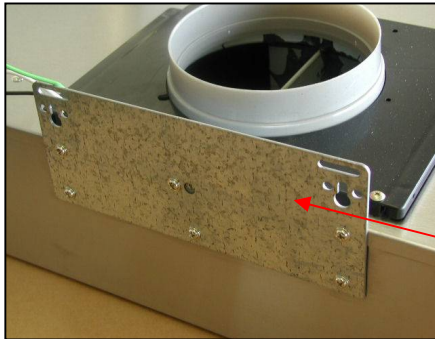

Figure 10
- Attach the hood-mounting bracket behind the hood with (3/16x3/8 mm) screws (provided) as shown on Figure 10.